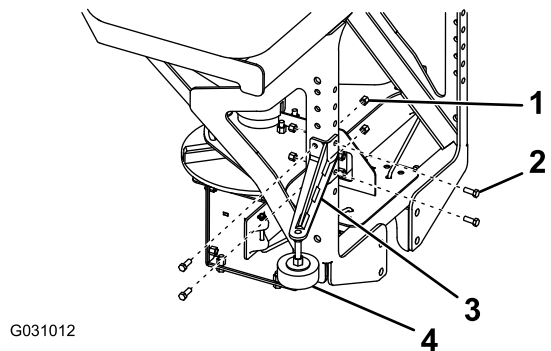

Figure 7
4. Attach the stabilizer arms to the spreader frame using 8 bolts (3/8 inch) and locknuts (3/8 inch) and torque the bolts to 27 Nm (19.7 ft-lb) as shown in Figure 7.
5. Rotate the pads on the stabilizer arms until they are tight against your truck bed and tighten the jam nut to secure them (Figure 7).
8. Attach the stabilizer arms to the spreader frame using 8 bolts (3/8 inch) and locknuts (3/8 inch) and torque the bolts to 27 Nm (19.7 ft-lb) (Figure 7).
9. Rotate the pads on the stabilizer arms until they are tight against your truck bed and tighten the jam nut to secure them (Figure 7).